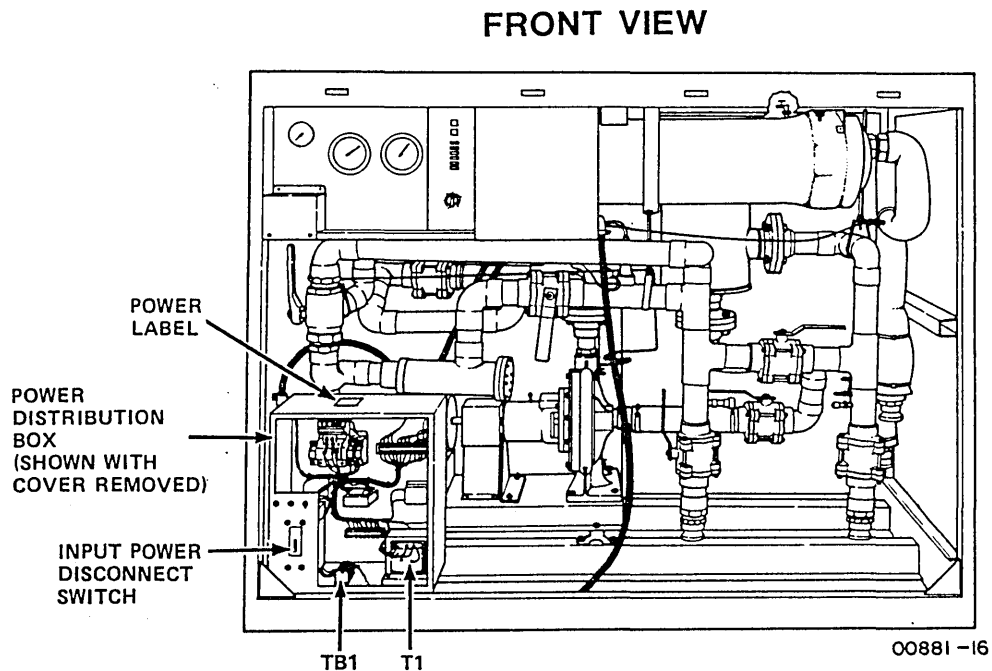

Figure 5-4. 50/60-Hz Power Connections to 220-L/min (58-gal/min) Unit
- ___ 2. Use screwdriver to remove vented cover from power distribution box (figure 5-4).